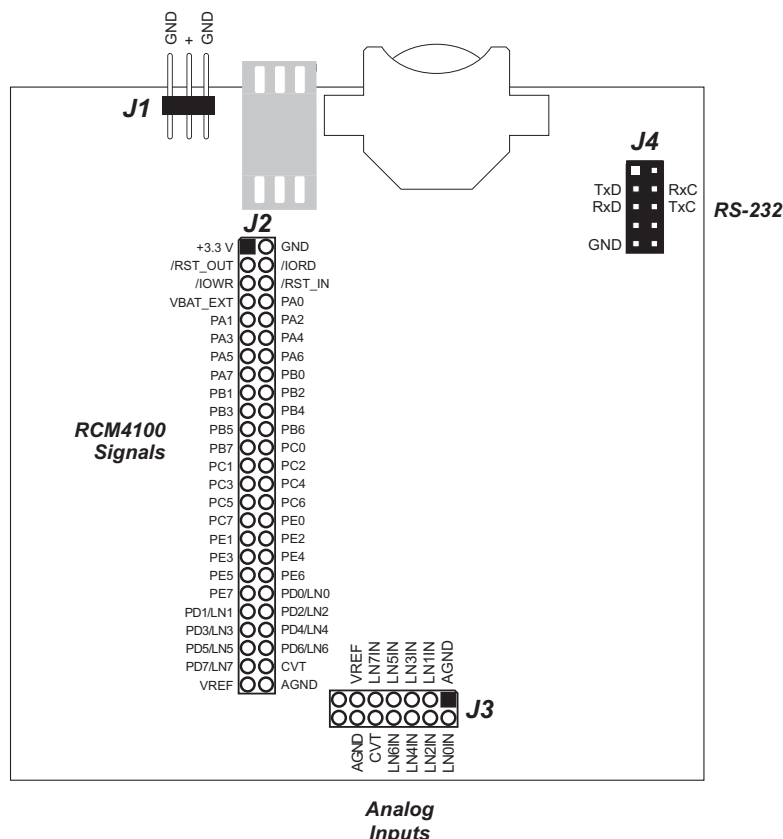

Figure B-4. Prototyping Board Pinout
- **Module Extension Header**—The complete non-analog pin set of the RCM4100 series module is duplicated at header J2. Developers can solder wires directly into the appropriate holes, or, for more flexible development, a 2 × 25 header strip with a 0.1" pitch can be soldered into place. See Figure B-4 for the header pinouts.
- **Analog Inputs Header**—The complete analog pin set of the RCM4100 series module is duplicated at header J3. Developers can solder wires directly into the appropriate holes, or, for more flexible development, a 2 × 7 header strip with a 0.1" pitch can be soldered into place. See Figure B-4 for the header pinouts.
The Prototyping Board provides the user with RCM4100 connection points brought out conveniently to labeled points at header J2 on the Prototyping Board. Although header J2 is unstuffed, a 2×25 header is included in the bag of parts. RS-232 signals (Serial Ports C and D) are available on header J4. A header strip at J4 allows you to connect a ribbon cable, and a ribbon cable to DB9 connector is included with the Development Kit. The pinouts for these locations are shown in Figure B-4.